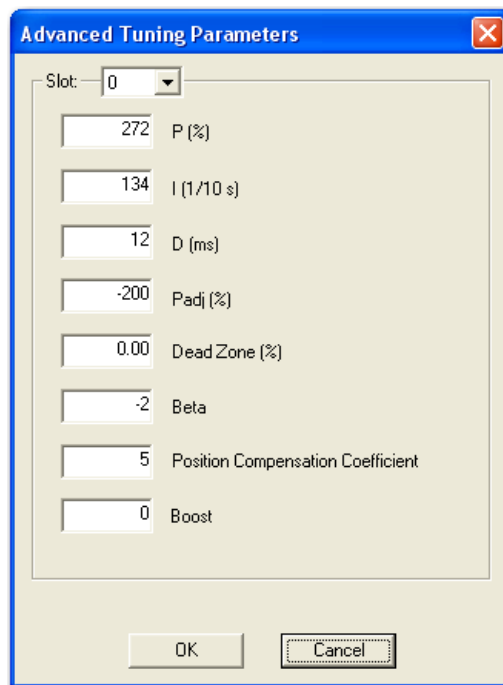

Figure 38 Advanced Parameters
1. Click **Advanced Parameters** and the Figure 38 dialog appears.